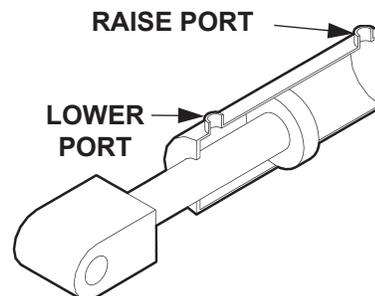

FIG. 49-3
3. Check the hydraulic cylinder. With the platform on the ground, remove the hydraulic line from the lower port of the cylinder (FIG. 49-3). Raise the platform even with the bed. Allow pump motor to run two seconds more while you watch for hydraulic fluid at the lower port. A few drops of hydraulic fluid escaping the port is normal; however, if it streams out, piston seals are worn. Replace seals.